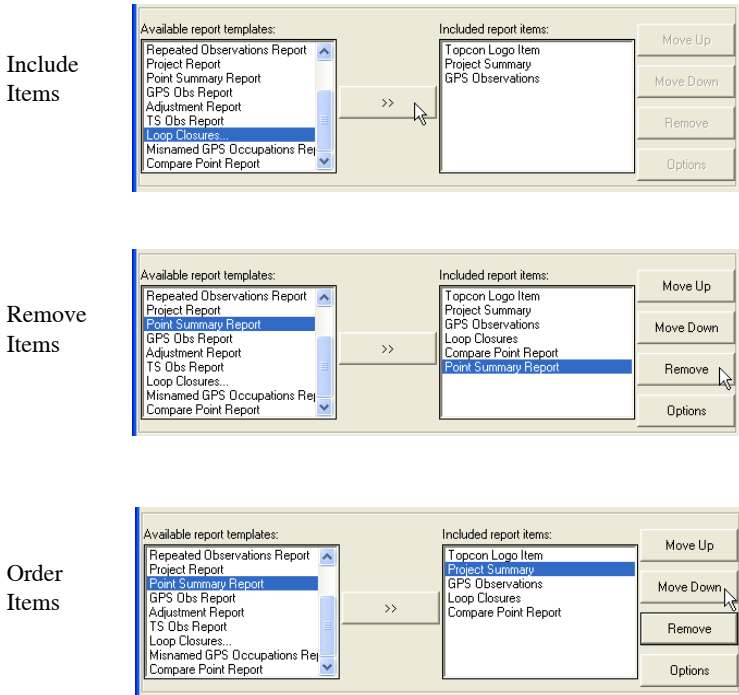

Figure 7-16. Edit Item Columns
3. If adding items, select the items to include in the left column and click the move right (>>) button (Figure 7-16).
4. If removing items, select the items to remove and click **Remove** (Figure 7-16).
5. Use the **Move Up** and **Move Down** buttons to order included items (Figure 7-16).
2. If adding items, select the items to include in the left column and click the move right (>>) button (Figure 7-16 on page 7-12).
3. If removing items, select the items to remove and click **Remove** (Figure 7-16 on page 7-12).
4. Use the **Move Up** and **Move Down** buttons to order included items (Figure 7-16 on page 7-12).